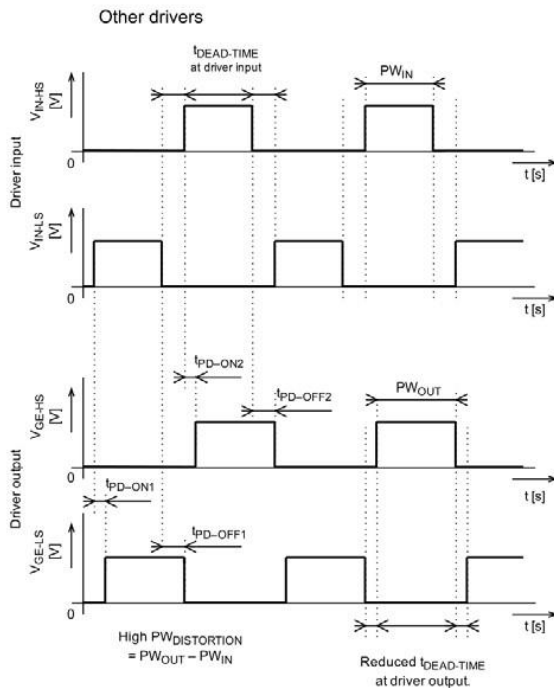
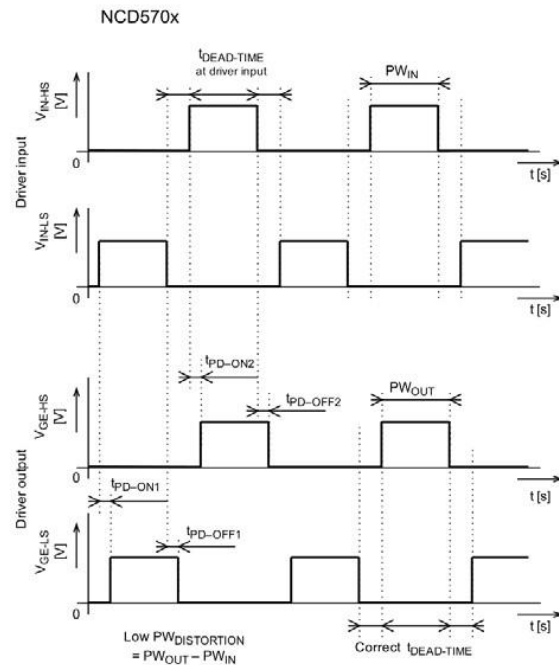

Figure 7. Timing Waveforms (Other Drivers)
Figure 8. NCV5705B Timing Waveforms
The gate driver is ideally required to transmit the input signal pulse to its output without any delay or distortion. In the context of a high-power system where IGBTs are typically used, relatively low switching frequency (in tens of kHz) means that the delay through the driver itself may not be as significant, but the matching of the delay between different drivers in the same system as well as between different edges has significant importance. With reference to Figure 7, two input waveforms are shown. They are typical complementary inputs for high-side (HS) and low-side (LS) of a half-bridge switching configuration. The dead-time between the two inputs ensures safe transition between the two switches. However, once these inputs are through the driver, there is potential for the actual gate voltages for HS and LS to be quite different from the intended input waveforms as shown in Figure 8. The end result could be a loss of the intended dead-time and/or pulse-width distortion. The pulse-width distortion can create an imbalance that needs to be corrected, while the loss of dead-time can eventually lead to cross-conduction of the switches and additional power losses or damage to the system.